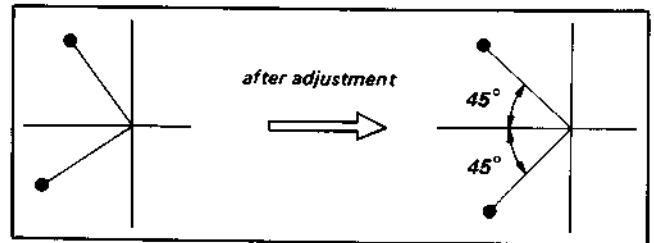

Fig. 4-38. 1H delay adjustment
- (4) Connect the vectorscope to TP24 (pin 9 of IC11).
- (5) Adjust LV2 so that the burst signal phase matches the phase of TP25. (see Fig. 4-38).